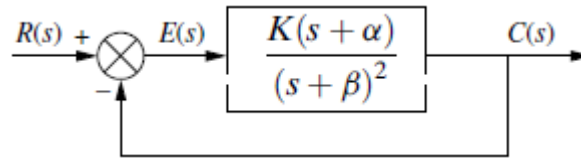

Fig. 14
14. For the unity feedback control system shown in Fig. 14, design the values of  $K$ ,  $\alpha$ , and  $\beta$  to meet the following requirements: